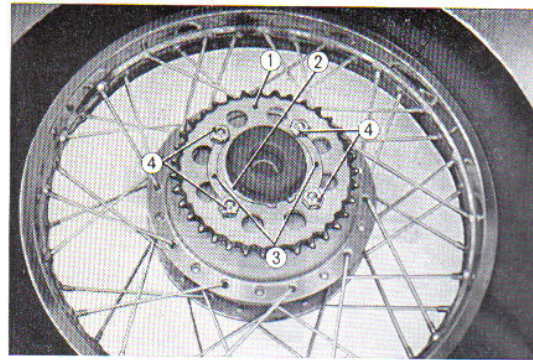

Fig. 4.101 Assembling the final driven sprocket
- ① Direction of rotation
3. Mount the final driven sprocket on the drive flange with the sprocket retaining bolts, nut and tongued washer. (Fig. 4.101)